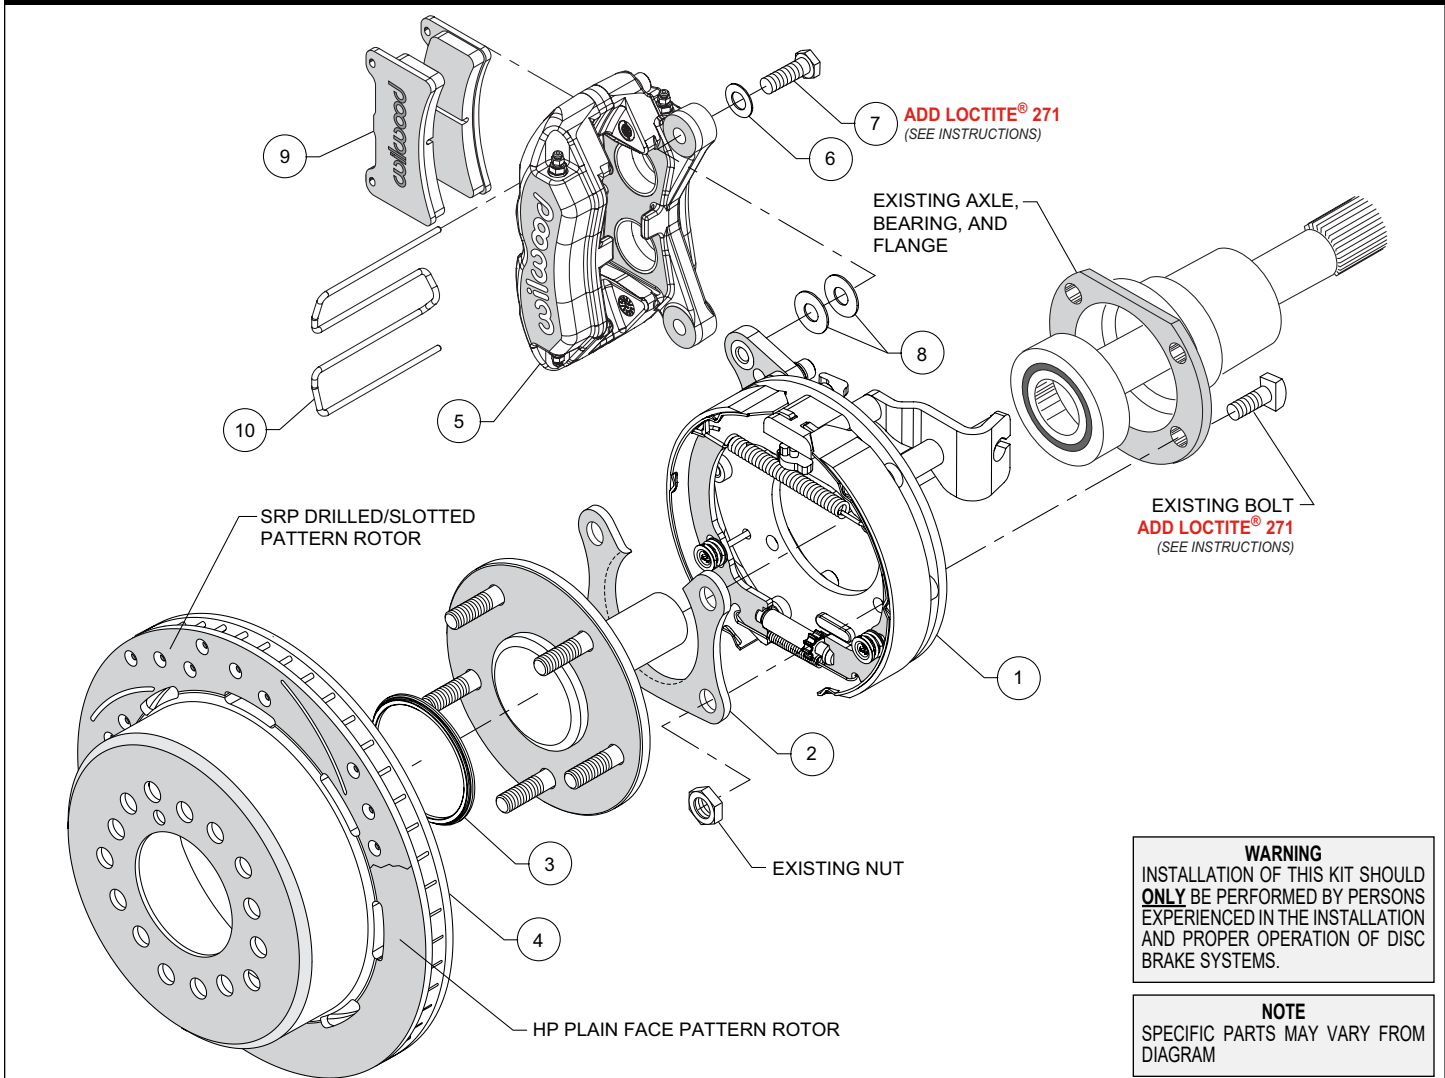
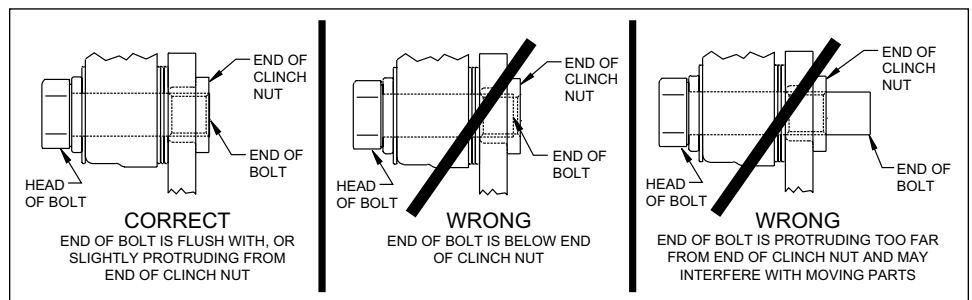

Figure 1. Typical Installation Configuration
Figure 5. Clinch Nut Engagement Diagram
**NOTE:** Numbers in parenthesis refer to the parts list and Figure 1 on the preceding pages.
**CAUTION:** All mounting bolts must fully engage clinch nuts. Be sure to check that all bolts are either flush or protruding through flanged side of clinch nut after shimming, Figure 5.
•Orient the bracket assembly (1) as shown in Figure 1 and Photo 1 and slide it onto the axle. Insert the axle and bracket into the axle housing. Ensure that the bracket assembly backing plate fits flush against the axle housing flange.
•Install the bearing retainer (2) with the opening pointing upward and the lip facing inward (toward the bearing), as shown in Figures 1 and 4, and Photo 2. Secure retainer and bracket assembly to the axle housing flange using the Original Equipment Manufacturer (OEM) bolts and nuts, Figure 1. Apply red *Loctite*® 271 to the OEM bolt threads and torque to OEM specifications.
- Slide the rotor registration adapter (3) onto the axle register on the axle flange with the smaller O.D. facing toward the rotor/hat (4), Photo 3. Align the correct hole pattern in the rotor/hat with the stud pattern on the axle flange and slide into place, Figure 1 and Photo 4. **NOTE:** The rotor/hat must fit flush against the axle flange or excessive rotor run out may result. Install three lug nuts (finger tight) to keep the rotor/hat assembly in place while continuing with the installation. **NOTE:** Some OEM and after market axles come with stud sizes larger than 0.50" diameter. Verify stud size and have a qualified machine shop drill the bolt circle of the hat/rotor to the correct stud size, if necessary.
- NOTE:** Please reference the caution statement at the beginning of the assembly instructions. Mount the caliper (5) onto the caliper mounting bracket (1) using bolts (7) and washers (6), as shown in Figure 1. Initially place two .035" thick shims (8) on each bolt between the caliper and the bracket, Photo 5. Temporarily tighten the mounting bolts and view the rotor (4) through the top opening of the caliper. The rotor should be centered in the caliper, Photo 6. If not, adjust by adding or subtracting shims between the bracket and the caliper. Always use the same amount of shims on each of the two mounting bolts. **NOTE:** The end of each bolt must be flush with or slightly protruding from the head of the clinch nut, as shown in Figure 5. If necessary place spare shims between washer (6) and caliper mounting ear to achieve the proper clinch nut engagement. Once the caliper alignment and clinch nut engagement are correct, remove the bolts one at a time, apply red Loctite® 271 to bolt threads, and torque to 40 ft-lb.